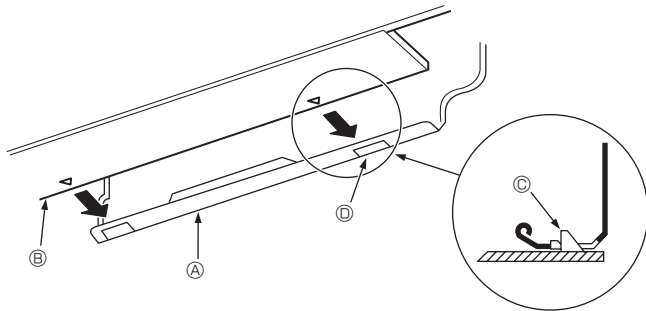

Fig. 3-15
3. While inserting the refrigerant piping and drain hose into the wall penetration hole (penetration sleeve), hang the top of the indoor unit to the mount board ①.
5. Fasten by pushing the bottom part of the indoor unit onto the mount board ①. (Fig. 3-15)
- * Check that the knobs on the bottom of the indoor unit are securely hooked into the mount board ①.
- ① Mount board
- ② Indoor unit
- ③ Hook
- ④ square hole